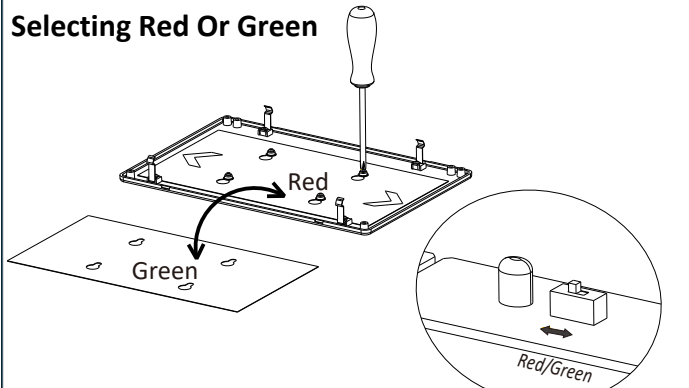

Fig 3
2. Change color of sign if necessary (Fig 3).